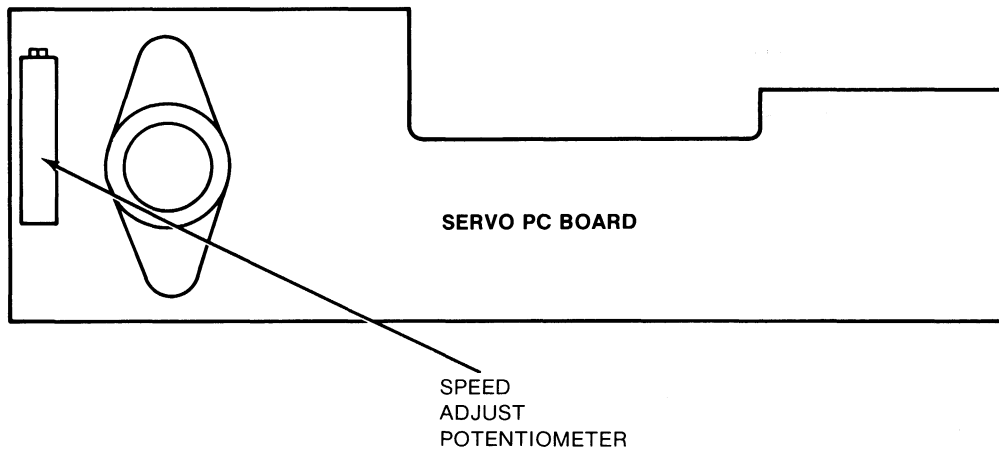

Figure 5-1. Spindle Motor Speed Adjustment
- a. Use the procedure in section V to setup Mini Drive as shown in figure 5-1.
5-8. The spindle motor speed should be re-adjusted whenever a new spindle motor or Servo Electronics board is installed. Refer to figure 5-1 while making this adjustment.
- e. Locate and adjust the potentiometer on the servo board until a 200ms +/-1% period is observed on the counter display. This will assure a 300 RPM spindle speed. Refer to figure 5-1.
- e. Place the spindle motor adjustment tool on the bottom of the drive as shown in Figure 5-1 so that the small end of the adjustment tool rests against the motor pulley and the large end rests against the spindle pulley.